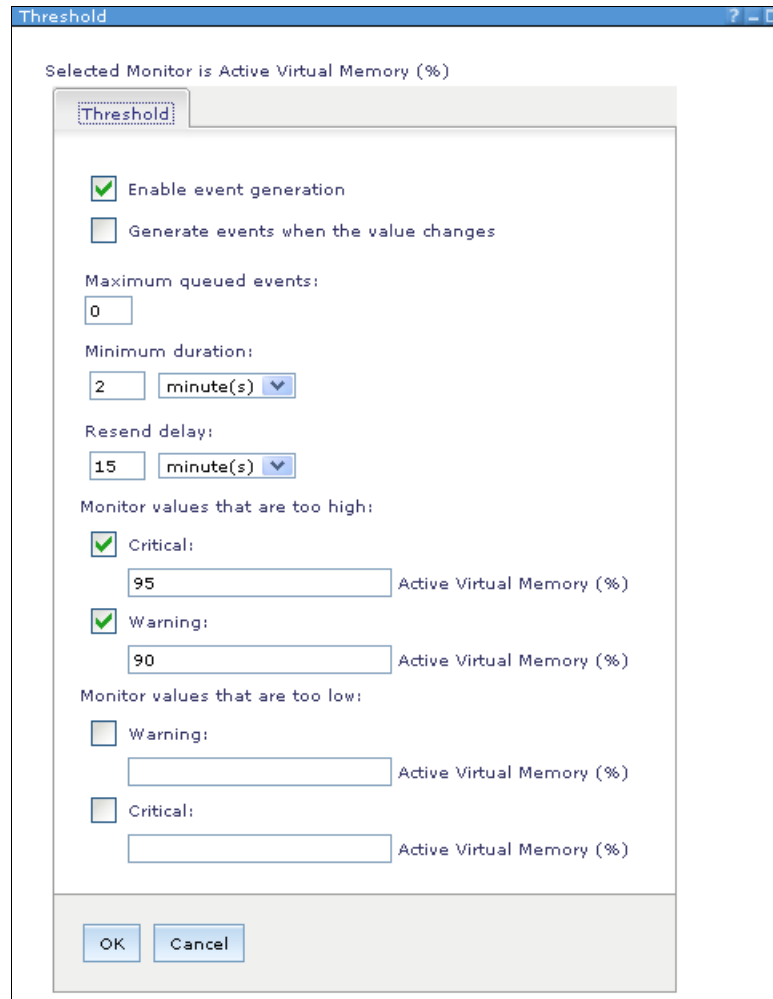

Figure 17-15 Setting monitor thresholds
5. Set the warning and critical values, the amount of time the condition must be true before sending a warning, and the amount of time to wait before resending a warning or critical message for the Active Virtual Memory monitor as shown in Figure 17-15.